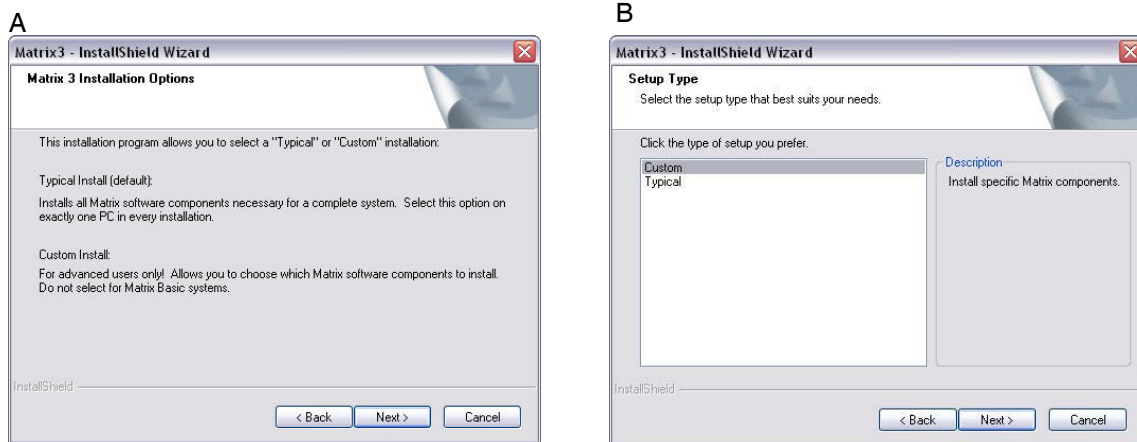

FIG. 17
- After clicking NEXT to accept the License Agreement, the Installation Options screen (A) shown in FIG. 17 displays. This screen describes the two installation options available for selection.
After clicking NEXT, the Setup Type screen, FIG. 17 (B), displays. This screen is used to select the type of installation you will do.